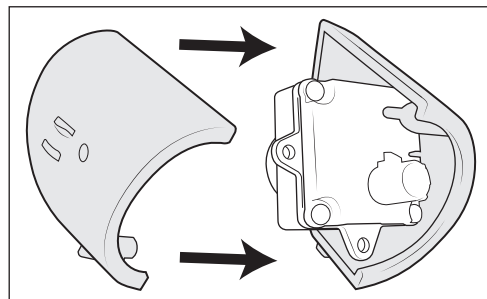

Figure 20
6. Install factory camera into clamshell mount (fig. 20) and plug into 90° connector on wiring harness*.